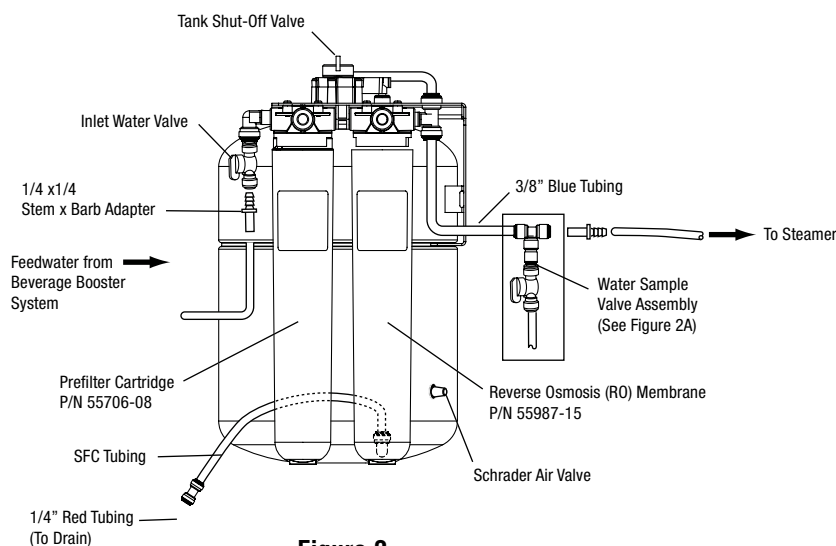

Figure 2
CAUTION: The FlashGard-HP Reverse Osmosis Water Filtration System requires a minimum 60 psi (413.7 kPa) inlet water pressure. To ensure adequate inlet water pressure, it is recommended that the system be plumbed after the beverage booster pump but before the beverage water filtration system. Refer to Figure 2 for proper tubing connections.
- 4) Cut a piece of the 3/8" blue tubing (included). Connect one end to the outlet tee on the RO system and the other end to one side of the Water Sample Valve Assembly (See Figure 2).
- 5) Run length of tubing from the other end of the Water Sample Valve Assembly to the inlet of the steamer. See Figure 2.
- 1) Close tank shut-off and inlet valves (see Figure 2).
- 8) Open tank shut-off and inlet valves (see Figure 2).
- 9) Open tank shut-off and inlet valves (see Figure 2)